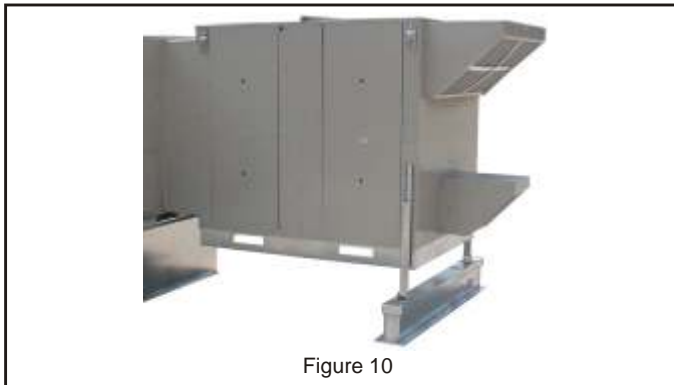

Figure 10
9. Check and seal, if necessary, along the edges where the ERS meets the rooftop unit to ensure there is no air leakage. Final assembly should resemble **Figure 10**.